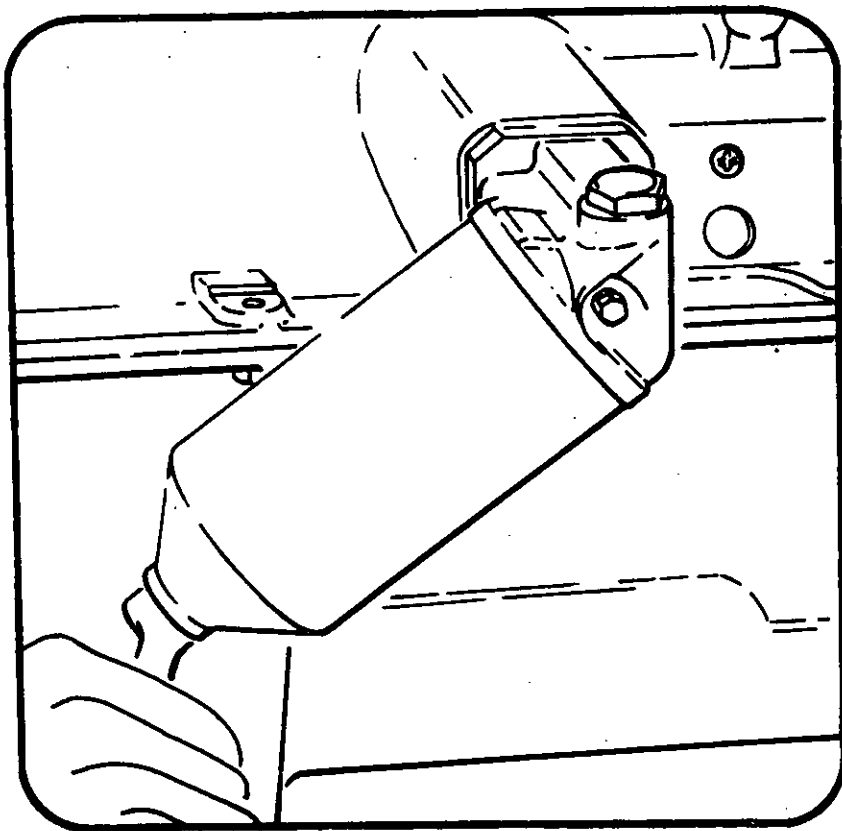

Fig. 2
1. Unscrew setscrew securing filter bowl at bowl base. (See Fig. 2).